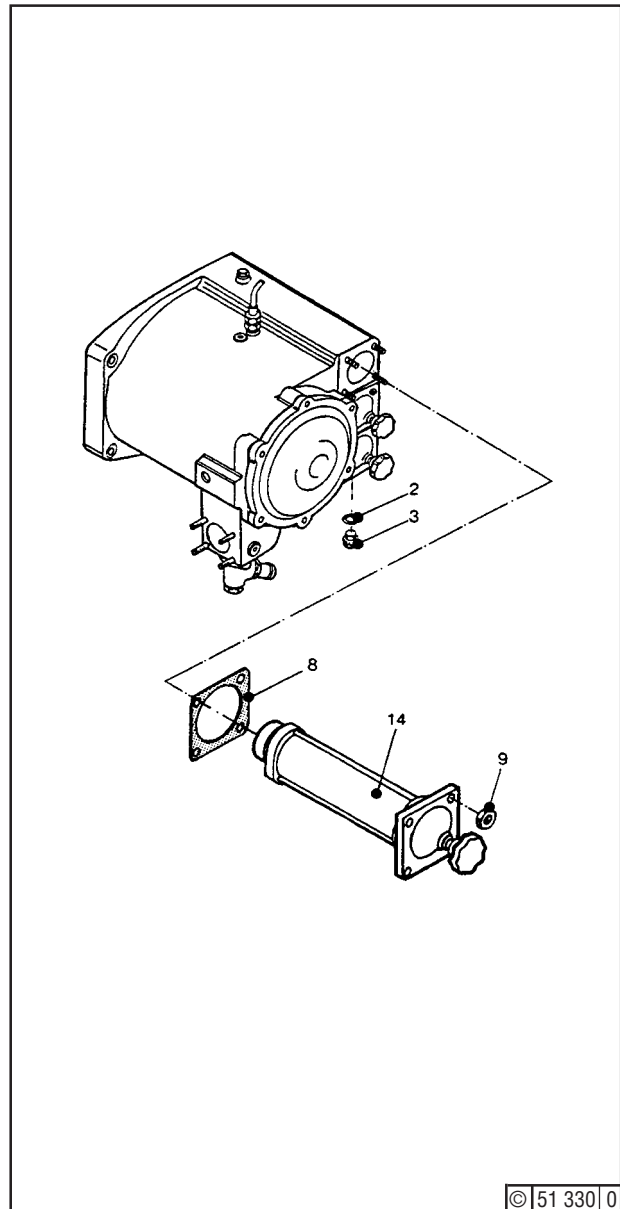
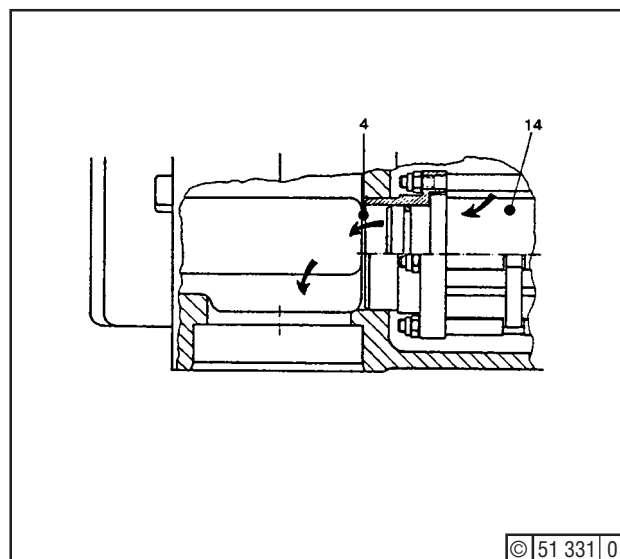

Fig. 2 Filter element
Fig. 3 Lube oil outlet hole
- Undo hex. nuts (9) - Fig. 2 - with withdraw edge filter element (14) from filter body.
- Remove square flange gasket (8).
- Dip element in diesel fuel, actuate rotary knob (5) alternately and clean element with the brush.
- Plug up oil outlet hole (4) - Fig. 3 - in filter body.
- Insert drain plug (3) - Fig. 2 - along with washer (2).
- Refit filter element (14) with new flange gasket (8) in filter body.
- Tighten hex.nuts (9).
- ☞ Introduce filter element (14) in perfectly horizontal position so that it will not be damaged.